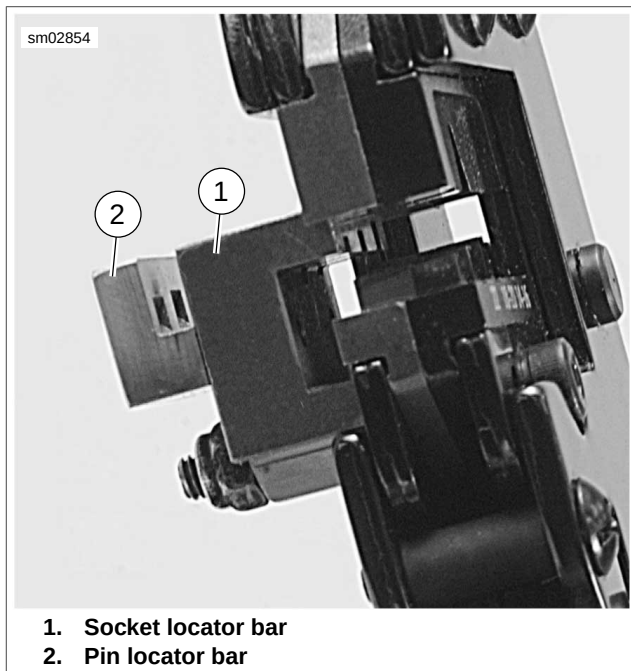

Figure A-30. Terminal Locator Bars
- a. **Socket Terminal:** See Figure A-30. A socket terminal stops against the back face of the socket locator bar (1).